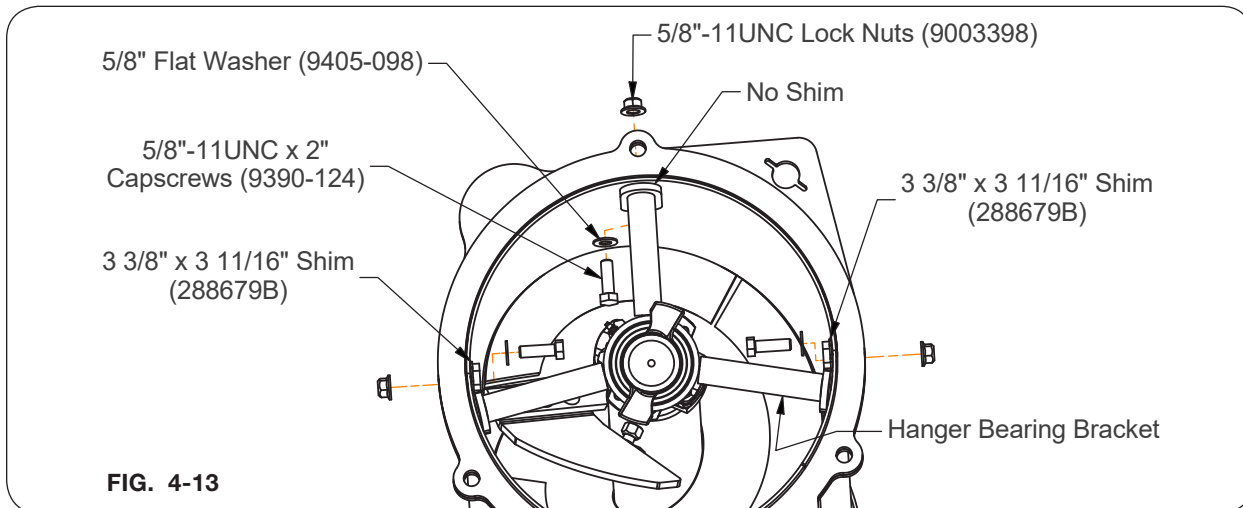

FIG. 4-13
- Loosely secure the hanger bearing using two 3 3/8" x 3 11/16" shims (288679B), three 5/8"-11UNC x 2" capscrews (9390-124), three 5/8" flat washers (9405-098), and three 5/8"-11UNC lock nuts (9003398) as shown in FIG. 4-13.